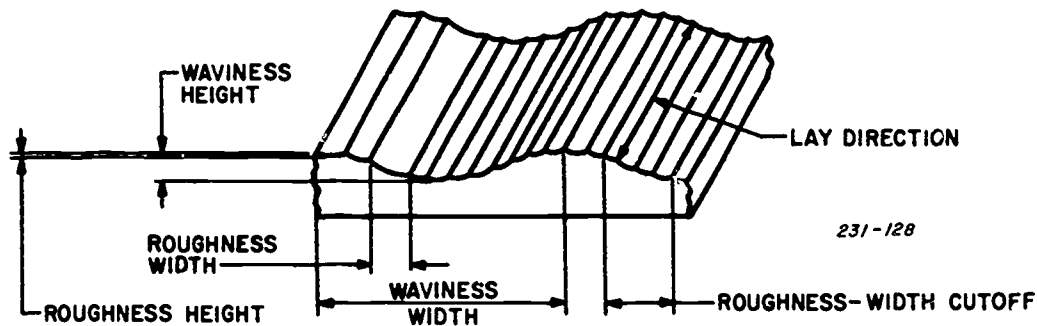

Figure 4-98. Surface roughness.
j. As shown in figure 4-97, arrange a series of dimensions in a continuous line. When this practice places the dimension values so close together that they are hard to read, stagger the values to form two columns, as shown in figure 4-98. This makes the numeral much easier to read.